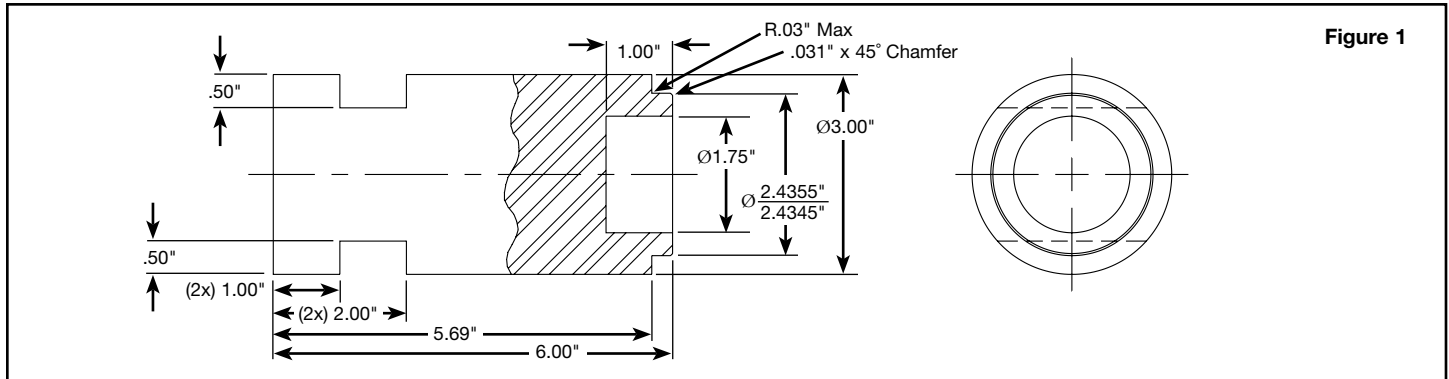
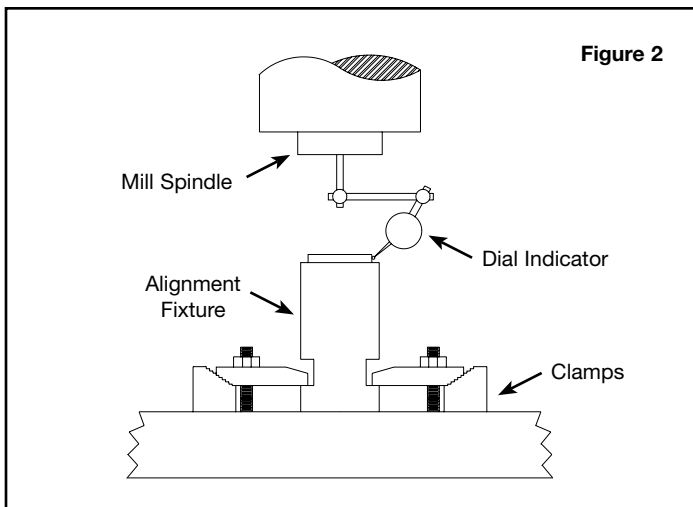

Figure 1
Figure 2
3. Toe clamp the locating fixture (**Figure 1**) to the mill table. Using the tenth reading indicator, align the fixture pilot diameter within .0005" TIR to the mill spindle (**Figure 2**).